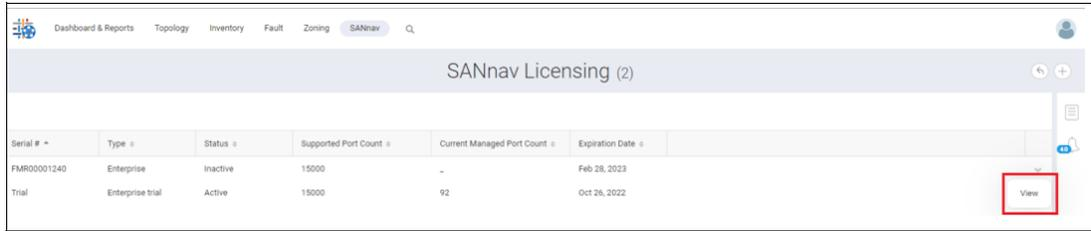

Figure 4-32 Selecting a license key
4. To activate the license, click the down arrow at the right of the license row, and then click **View** to display the license details window, as shown in Figure 4-32 on page 85.